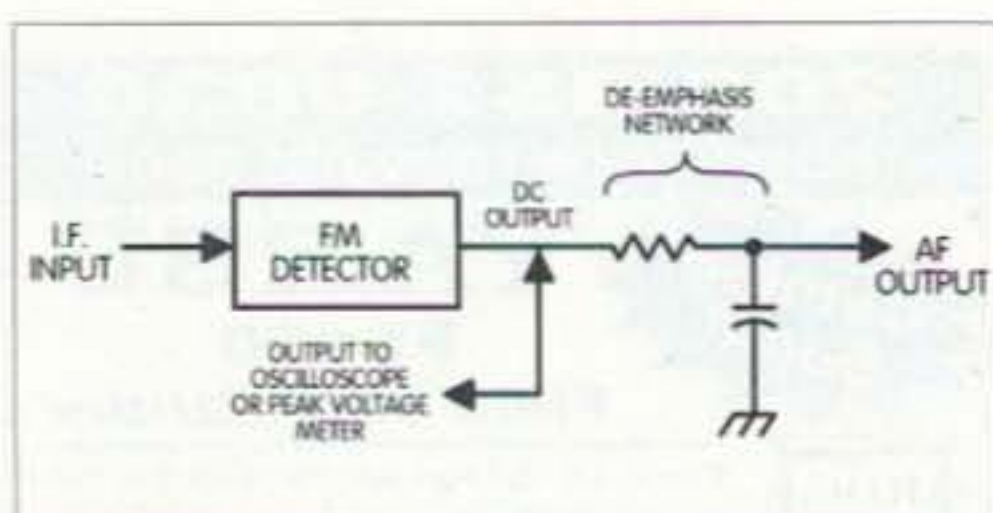

Fig. 1. Connecting a deviation indicator to a receiver's FM detector.
Fig. 1. Tuned input module enclosure. C1: 5-section air variable. L1: 6 turns of #10 wire 1-1/2 inches long (wound on 1-1/2-inch OD form), tapped from ground end at 1-1/4, 1-7/8, 2-1/2, 4-1/8, and 6 turns. S1: SP3T (shorting). S2: SP5T (nonshorting).
3) Connecting an oscilloscope to the DC output of the detector of an FM receiver, as shown in Fig. 1, is by far the easiest method to implement for measurement of deviation. The oscilloscope may be either AC- or DC-coupled to the detector, but the DC-coupled scope is easier to calibrate (as will be discussed in a moment). The scope displays the instantaneous carrier deviation of the transmitter. With the trace centered on the screen, the vertical deflection from center can be calibrated in deviation. The horizontal sweep rate and width of the scope is adjusted for comfortable viewing as only the vertical component is of concern.